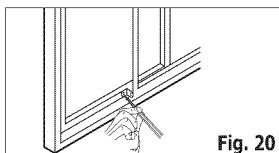

Fig. 20
7. To secure the sliding sash in place, attach right angle sash lock with 12.7mm (1/2") screw as shown.(Fig.20)